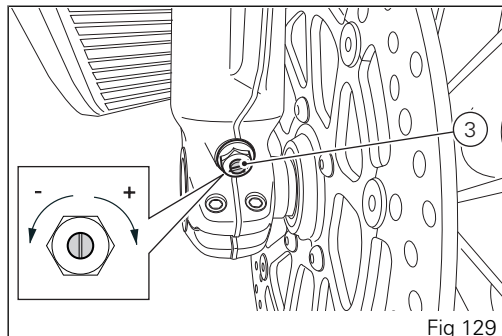

Fig 129
- 3) to adjust the compression damping (Fig 129).